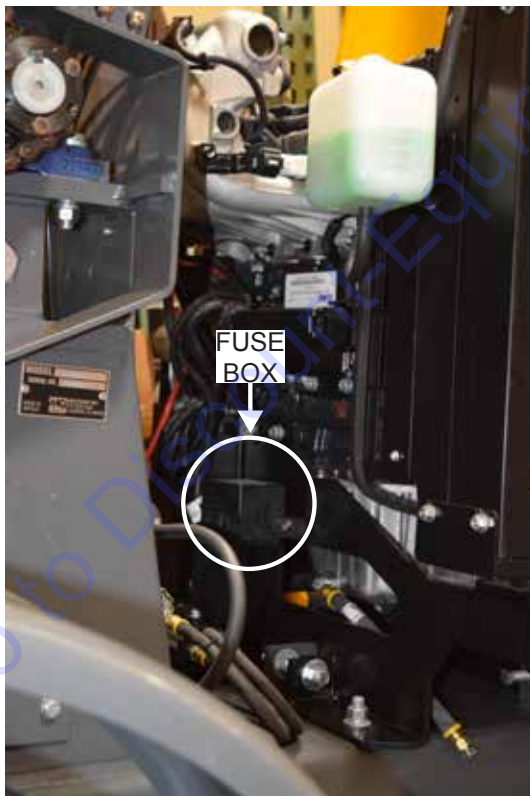
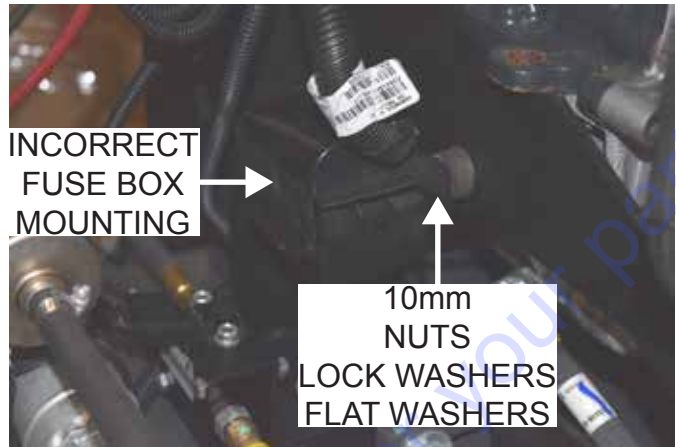

Figure 3. Incorrect Fuse Box Mounting
Figure 4. Fuse Box Mounting Hardware Removal
4. Locate the fuse box in the middle of the unit (Figure 3) and check its mounting orientation. Incorrect fuse box mounting (Figure 4) will have the fuse diagram facing towards the ground.
5. If incorrectly mounted, use a 10mm socket to remove the two 10mm nuts, lock washers, and flat washers as shown in Figure 4.